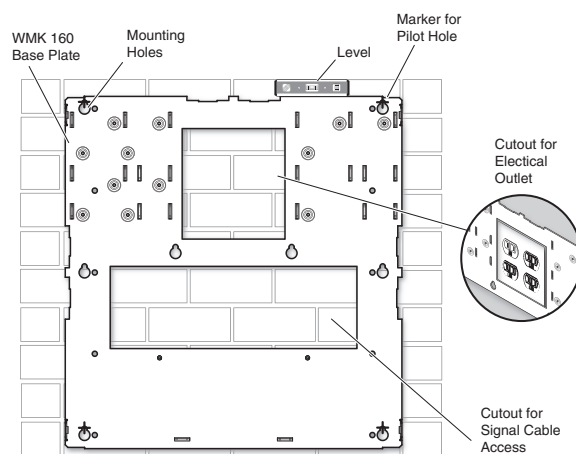

Figure 2. Masonry wall mounting
NOTE: The base plate can be installed over an existing electrical outlet (see figure 2 at right).
- Hold the base against the wall, level it, and mark the positions of four slotted mounting holes (indicated by + marks in figure 2 at right). Set the plate aside.
- The base plate can be installed over an existing electrical outlet (see figure 2 above).